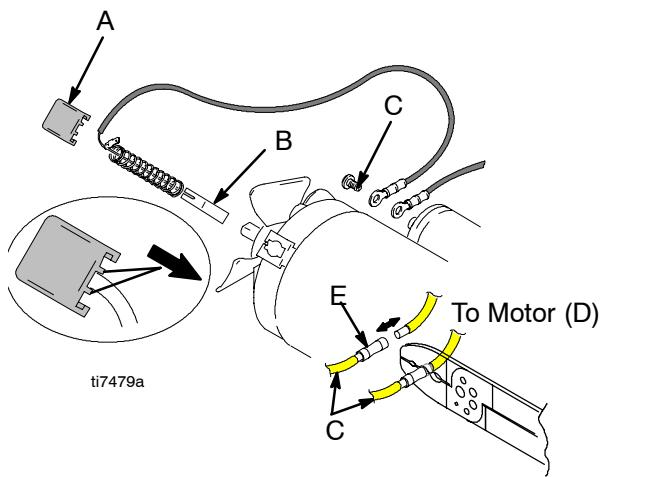

Fig. 9
6. Fig. 9. Insert brush (B). Push cap (A) into place over brush. Orient each cap with the 2 projections on either side of the brush lead. You will hear a "snap" when cap is securely in place.
7. Fig. 9. Install red (+) and black (-) motor leads according to tags. Install brush lead end with screw (C) to motor-mounted capacitor or route lead into control box and connect to board.